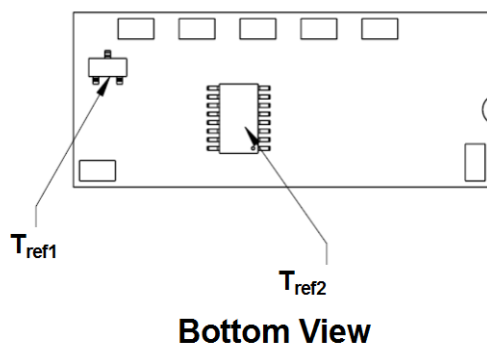
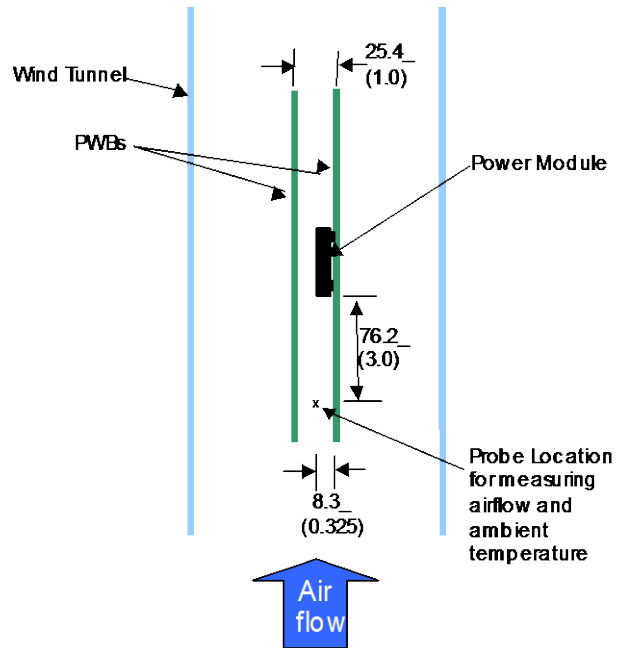

Figure 31. Temperature measurement locations T_{ref1} and T_{ref2} .
Figure 32. Thermal Test Set-up.
Considerations include ambient temperature, airflow, module power dissipation, and the need for increased reliability. A reduction in the operating temperature of the module will result in an increase in reliability. The thermal data presented here is based on physical measurements taken in a wind tunnel. The test set-up is shown in Figure 32. Note that the airflow is parallel to the short axis of the module as shown in figure 31. The derating data applies to airflow in either direction of the module's short axis.
The thermal reference points, T_{ref1} and T_{ref2} used in the specifications are shown in Figure 31. For reliable operation these temperatures should not exceed 115°C.